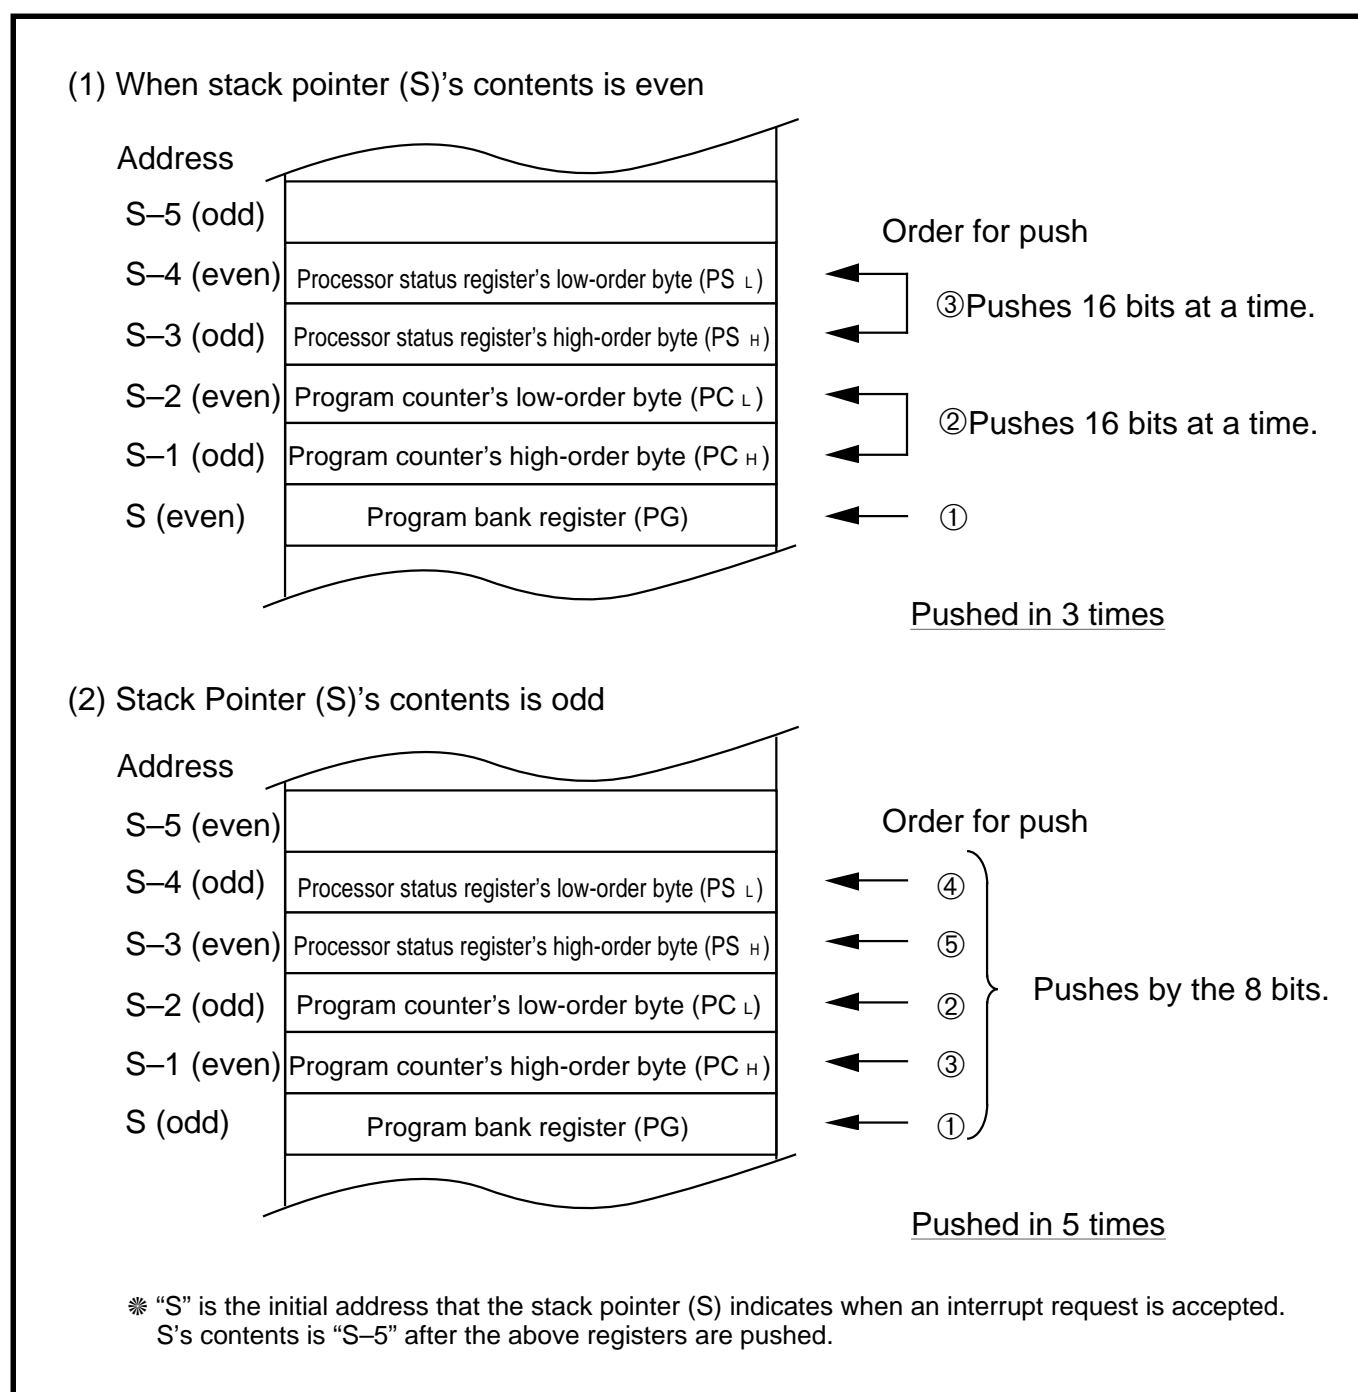

Fig. 4.7.3. How registers are pushed
When the stack pointer (S)'s contents is even, each of the program counter (PC)'s contents and processor status register (PS)'s contents is simultaneously pushed by the 16 bits. When the stack pointer (S)'s contents is odd, each of these registers is pushed by the 8 bits. Figure 4.7.3 shows how the registers are pushed.